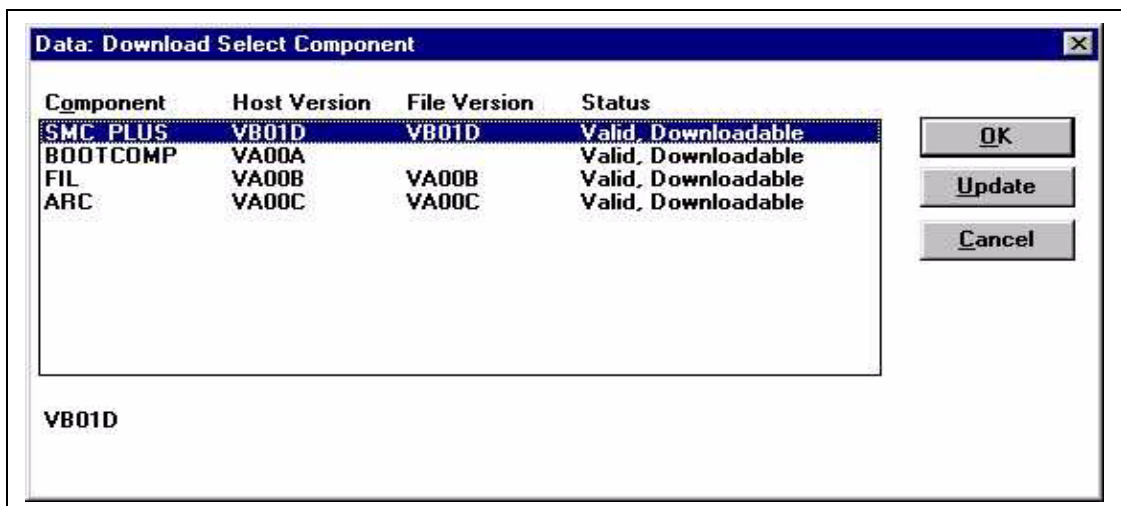

Fig. 2
- The "Data: Download Select Component" window (Fig. 2) is displayed.
Fig. 2 shows the "Data: Download" window as an example. The current system software versions and the software versions available as files on the service PC are displayed in the "Host Version" and "File Version" columns. The displayed software versions vary according to the installed and delivered software versions.